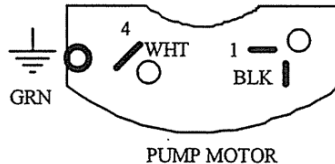

Figure 15.
4. Disconnect the three wires in the motor - black, white and green. Unscrew the strain relief and remove the cable. *See Figure 15.*
11. Insert the motor power cable through the strain relief; attach the black, white and green wires to the motor. *See Figure 15.*